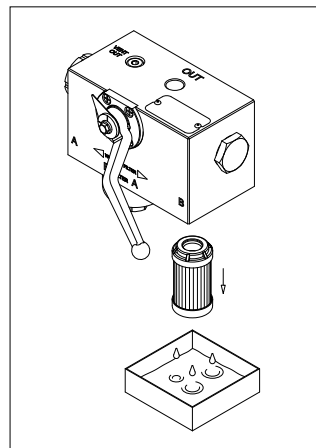

fig. 9
- (Fig. 9) Pull the filter element out